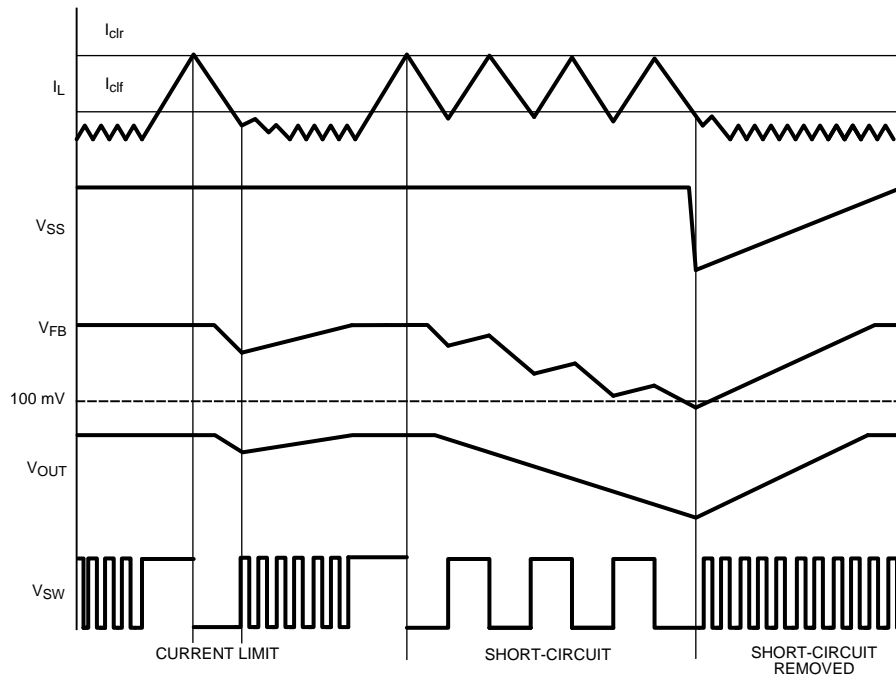

Figure 26. Current Limit Conditions
A current limit condition will cause the internal soft-start voltage to ramp downward. After the internal soft-start ramps below the Feedback (FB) pin voltage, (nominally 0.6 V), FB will begin to ramp downward, as well. This voltage foldback will limit the power consumption in the device, thereby protecting the device from continuously supplying power to the load under a condition that does not fall within the device SOA. After the current limit condition is cleared, the internal soft-start voltage will ramp up again. Figure 26 shows current limit behavior with  $V_{SS}$ ,  $V_{FB}$ ,  $V_{OUT}$  and  $V_{SW}$ .